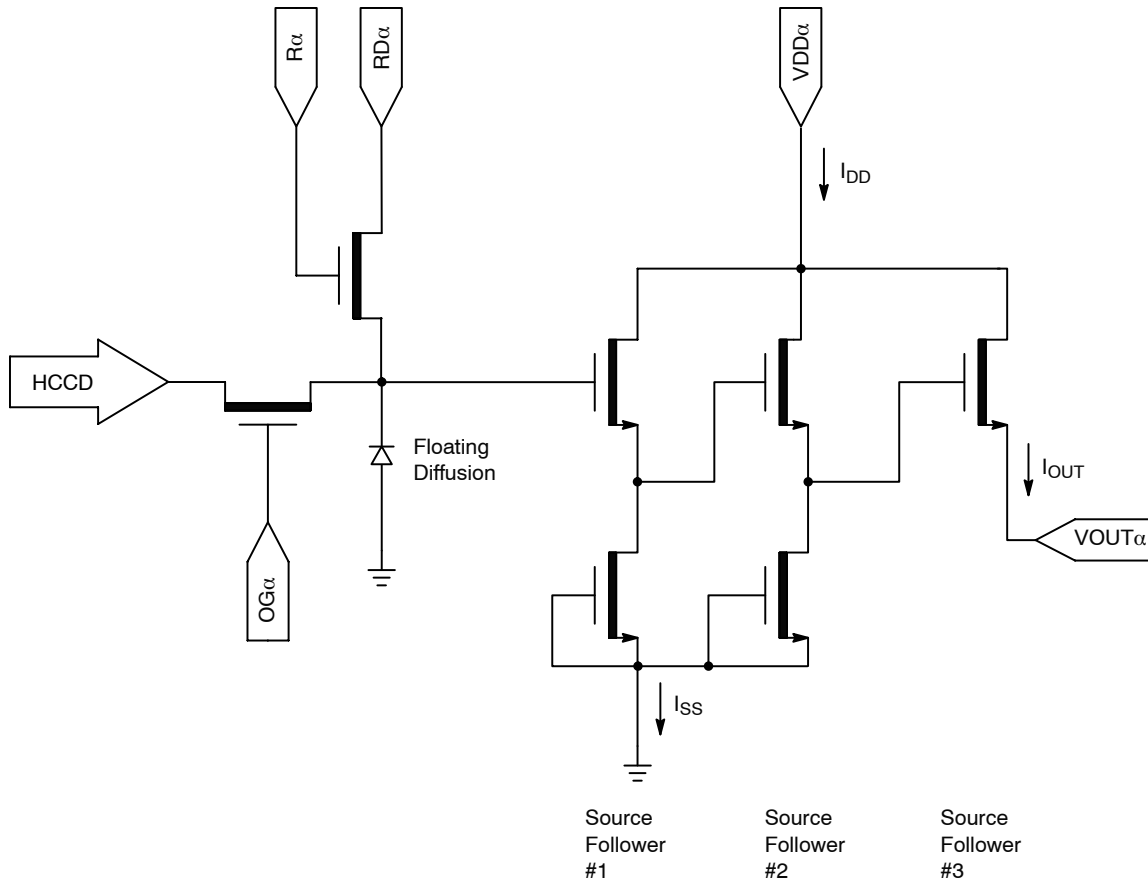

Figure 20. Output Amplifier
2. The maximum DC current is for one output. $I_{DD} = I_{OUT} + I_{SS}$. See Figure 20.